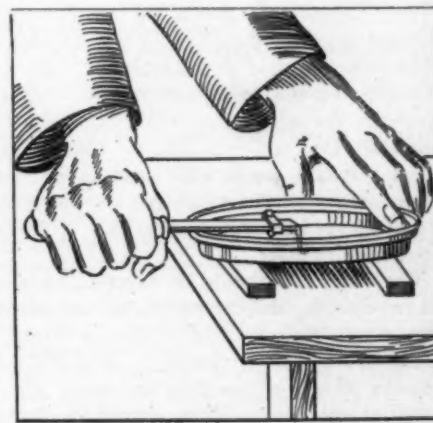

Fig. 6—Using best form of circular cutter
**CUTTING CIRCULAR HOLES IN SHEET METAL**—This has very often to be done in the garage and it is often the case that the amateur repairman makes use of the can opener. When this is done it may be a good thing to know that there are two forms of this instrument. The general type which has been in use for a long time will cut a rough-edged hole which is not often desirable for many reasons. The form shown in Fig. 6 has a central pivot which is passed through the metal and a cutter inserted by turning down the opener. The hole is cut by a single rotary motion of the instrument and is of regular shape